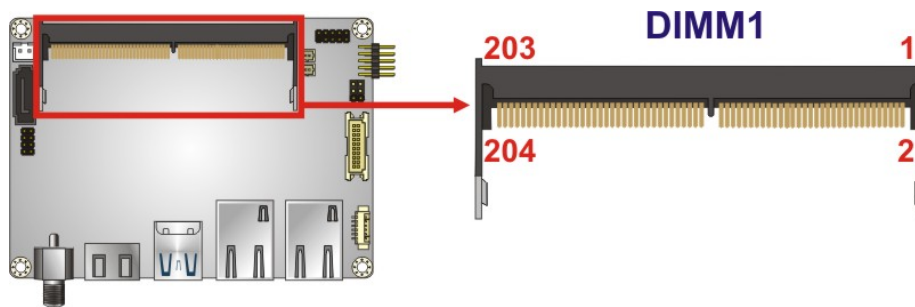

Figure 3-6: DDR3L SO-DIMM Socket Location
- CN Location:** See **Figure 3-6**